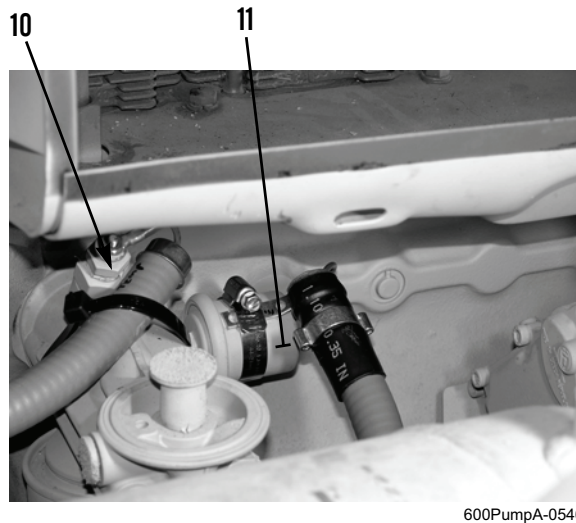

Figure 10. Oil Temperature and Oil Pressure Senders.
6. Connect engine/control panel wiring harness to oil pressure sender (Figure 10, Item 11) (WP 0042).
7. Connect engine/control panel wiring harness to oil temperature sender (Figure 10, Item 10) (WP 0044).